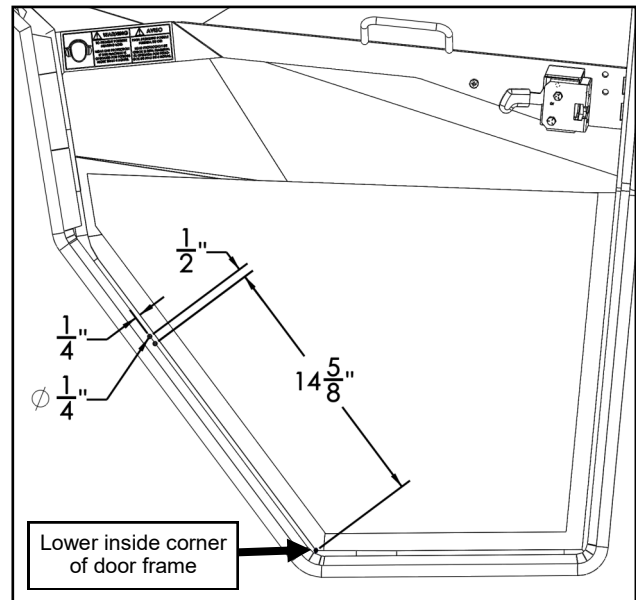

Fig. 1.3 (Drill Door Frame, as needed)
If Curtis door kit frames have pre-drilled holes as shown in figure 1.3, skip step 1.3 and continue to step 1.4.
- 1.3 Per figure 1.3, drill (2) 1/4" holes thru the Velcro, door frame, and vinyl. Drill both the left and right doors.